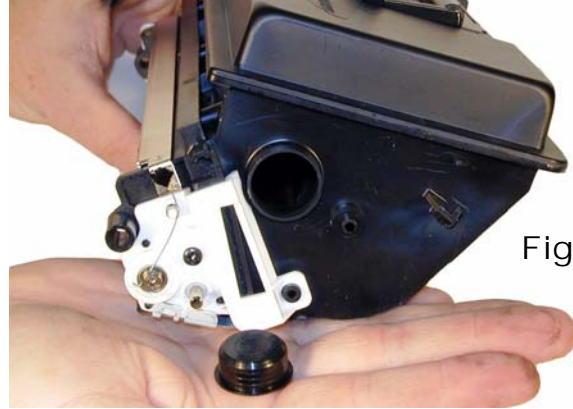

Figure 29
27) Remove the fill plug, and dump out all remaining toner from the hopper. Vacuum clean. See **Figure 29**